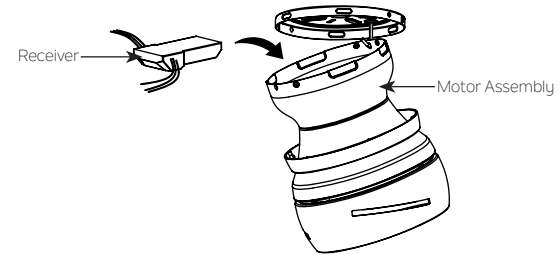

Fig. 9
**Step 1.** Insert the receiver into the motor assembly, and keep flat in opposition of ceiling. (Fig. 9)